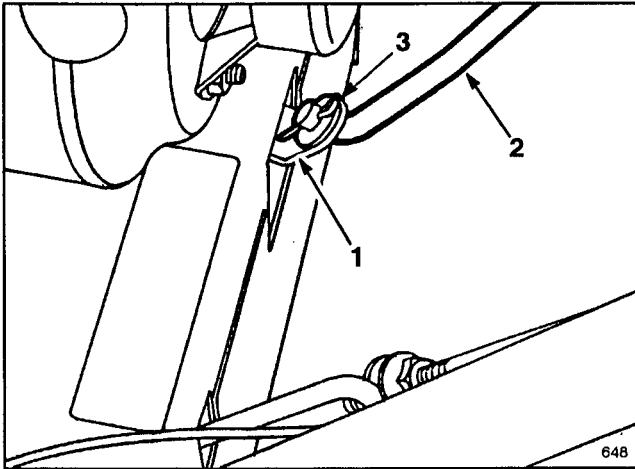
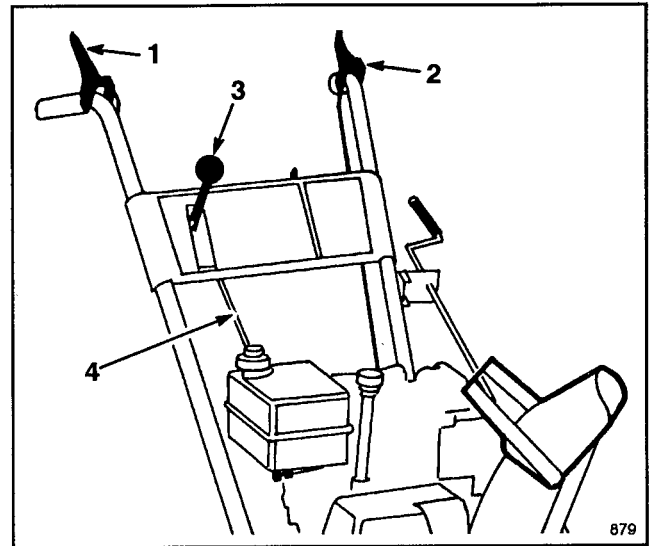

Figure 4
Figure 6
1. Pull speed selector arm (Fig. 4) to the fully "out" position and move speed selector (Fig. 6) on control panel to the R (REVERSE) position to ease assembly.
2. Install speed selector rod into selector arm, add one flat washer on the selector rod and secure with cotter pin (Fig. 4).
4. Adjust the two flange nuts up or down on the traction control rod until the distance between the top of the handgrip and the bottom of the traction control lever (Fig. 6 and 7) is approximately $4\frac{3}{8}$ inches. **This is a preliminary setting only.** Tighten the two flange nuts finger tight.
5. Move speed selector (Fig. 6) into third gear.
3. Check the distance between the top of the handgrip and the bottom of the auger control lever (Figs. 6 & 9). Distance should be approximately four inches. **This is a preliminary setting only.**